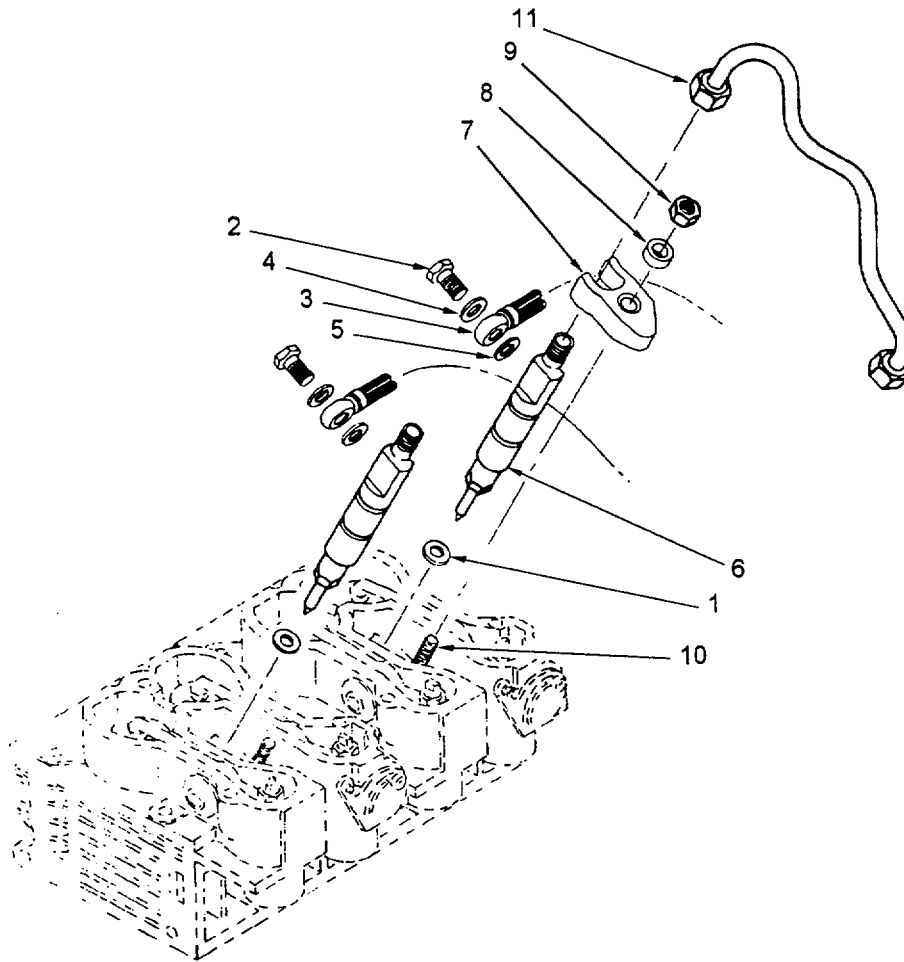

Figure 6-44. Fuel Injector Installation
6.4.20 Install Fuel Injector. (Refer to figure 6-44.)